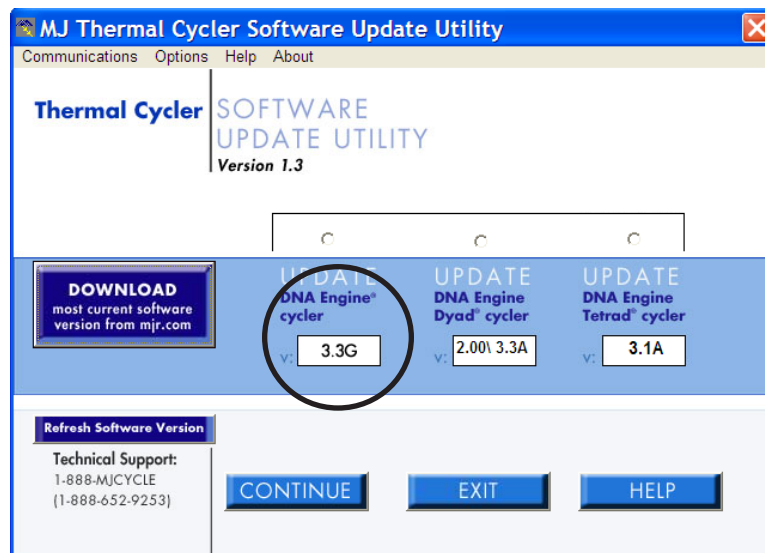

Figure 3-8. Software update utility
8. A software update window similar to the one shown in Figure 3-8 will open.
10. Select *Update DNA Engine cyler* and verify that the program lists firmware version 3.3G or greater (see Figure 3-8).